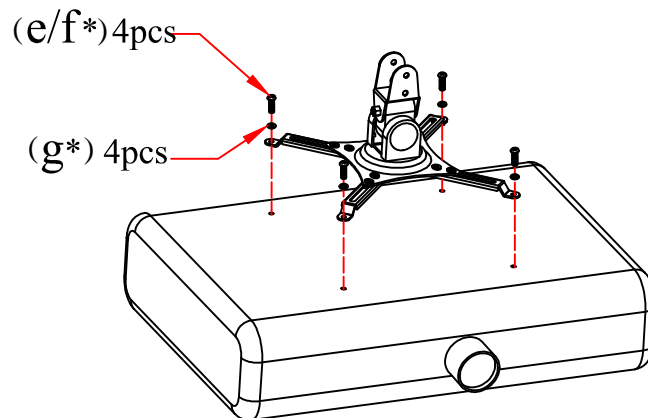

Figure 2
Step 2: Attach the bracket to the Projector. (Figure 2)